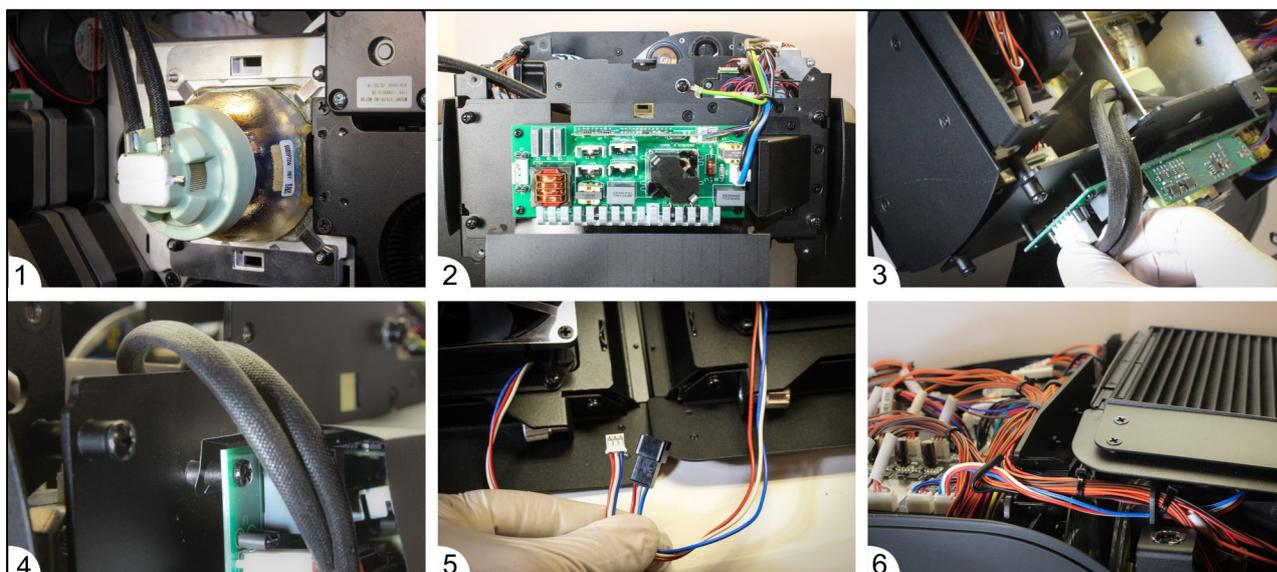

Figure 19: Lamp installation
2. See Figure 19. Position the lamp in the housing with the wires leading towards the top of the head (1) and tighten the retaining clips.
3. Fasten the lamp housing assembly to the head (2).
4. Lead the lamp wires through the lamp housing assembly and connect to the ballast (3).
5. Hook the ballast cover onto the stand-off spacers (4).
6. Note the different fan wire connectors when reinstalling the fan assemblies: the top fan has the white connector (5). Lead the top fan wires under the larger wire bundle as shown to prevent it from being pinched (6).